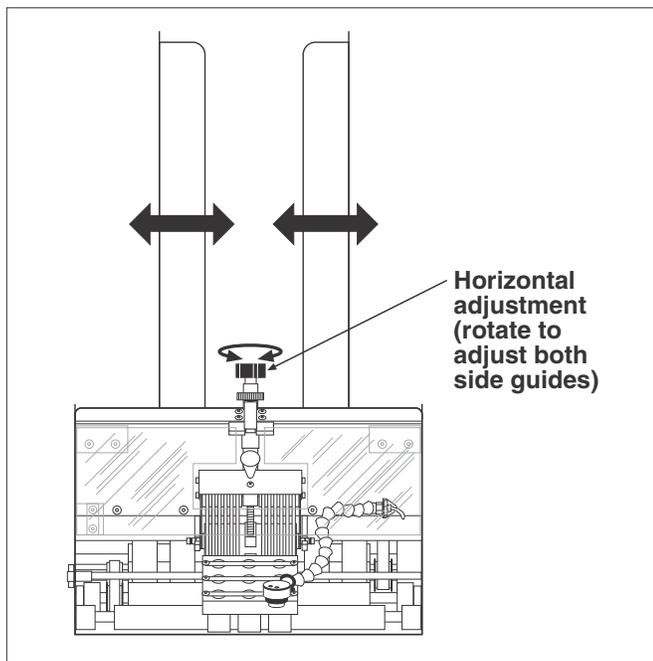

Figure 2-6. Horizontal Adjustment of Side Guides
**One-Knob Side Guides (standard).** To adjust each side guide for proper *equidistant* horizontal spacing using the single-knob adjustment, follow these steps (Figure 2-6):
- 1) *One-Knob: Both side guides controlled simultaneously by a single knob (as shown in Figures 2-6 and 2-7).*